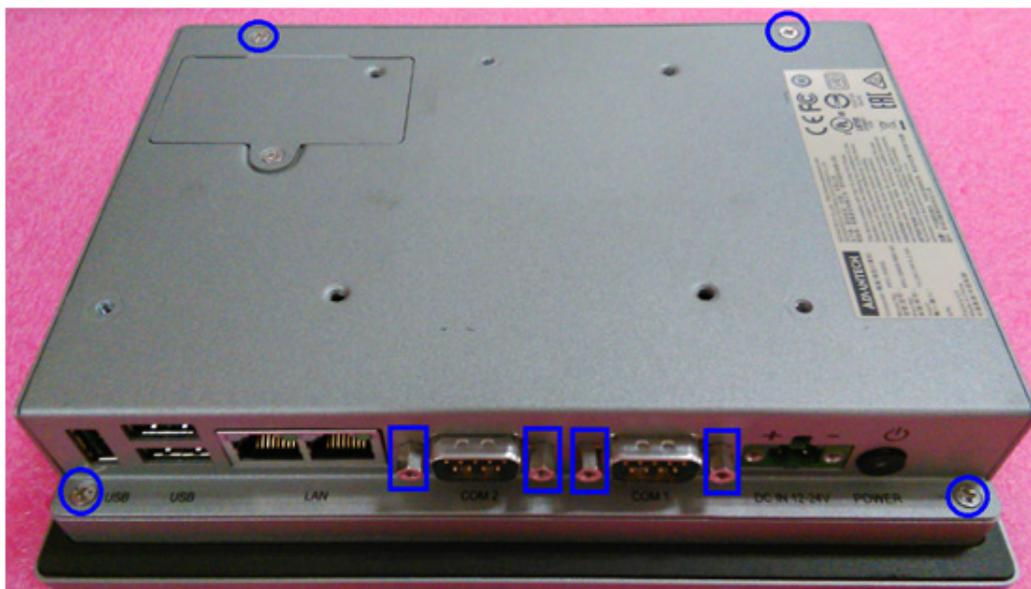

Figure 2.4 Retention Screws on Rear Cover
1. Remove 4 screws and 4 stands (See Figure 2.4) and take off the rear cover.
3. Refer to figure 2.4 Retention Screws on Rear Cover, to complete the memory installation.
First refer to Figure 2.4, Retention Screws on Rear Cover and take off the rear cover.
4. Refer to figure 2.4 Retention Screws on Rear Cover to replace cover.